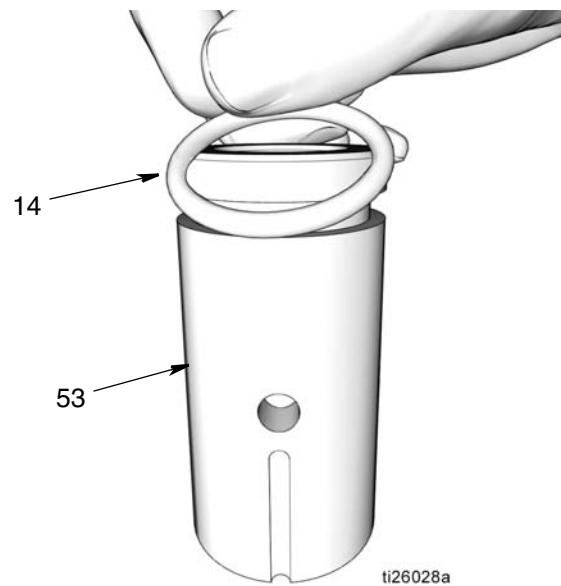

FIG. 43
5. Pump Element Sleeve (53)
- a. Use a clean cloth to wipe down the pump element sleeve (53) and remove any dirt or contaminants. Inspect surface for any scratches or damage.
- b. Apply a thin layer of grease to o-ring (14). Install o-ring around the pump element sleeve (d) (FIG. 43).